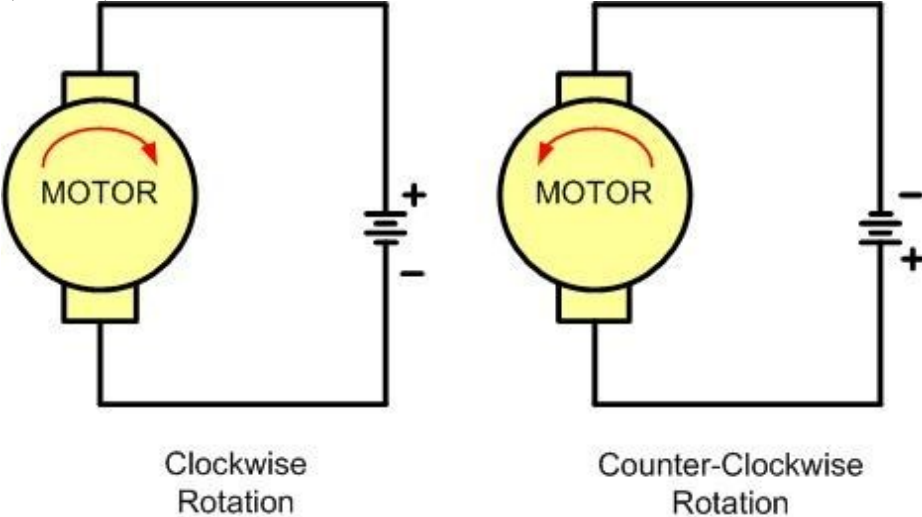

Figure 11-1: DC Motor
Figure 11-1 shows the DC motor clockwise (CW) and counterclockwise (CCW) rotations.